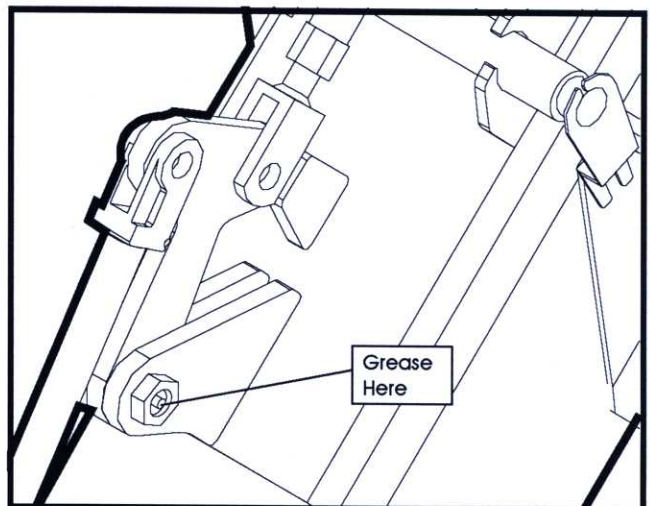

FIGURE 19
**ASSEMBLY: REFER TO FIGURES 19 & 20.**